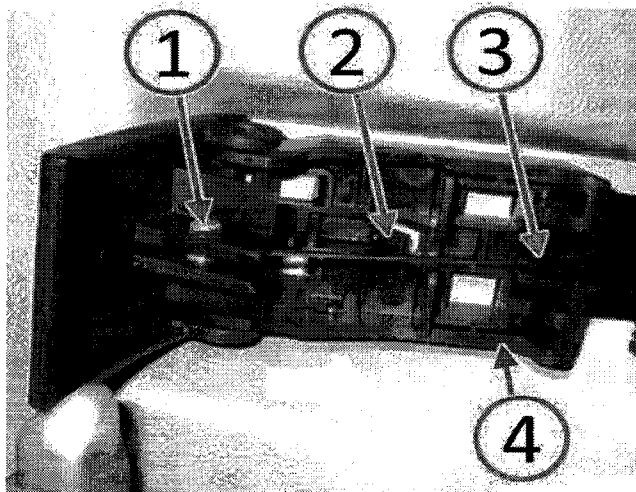

Fig. 5 Connect Hood Release Cable
5. Install the cable end (1) then engage the cable (3) into the hood release handle (4) (Fig. 5).